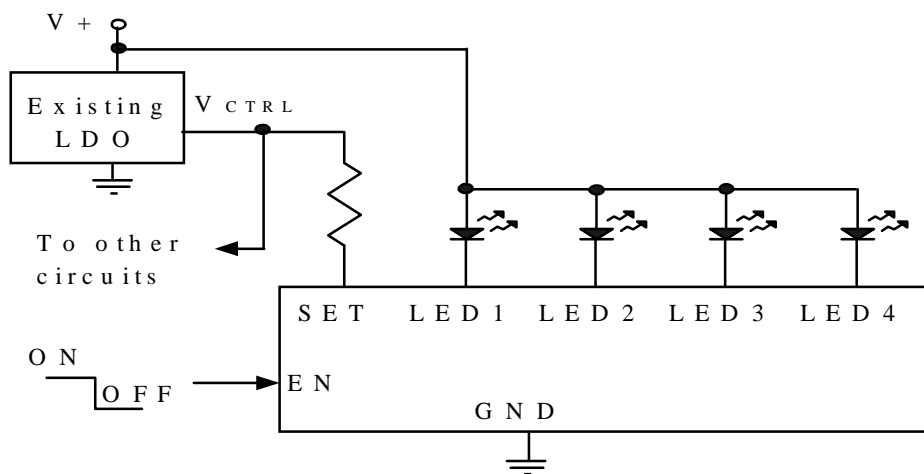

Fig. 2 Very low-cost, high-efficiency solution
**Very Low-Cost, High-Efficiency Solution** (Fig. 2). A battery (single Li+ or three NiMH cells) powers the LEDs directly. This is the least expensive and most efficient architecture. Due to the high forward voltage of white LEDs (3.3V), the LED brightness may dim slightly at the end of battery life. The T6311A current regulating architecture and low dropout greatly minimize this effect compared to using simple ballast resistors. The enable function of the T6311A turns on and off the LEDs. An existing low-dropout regulator is used as  $V_{CTRL}$ .